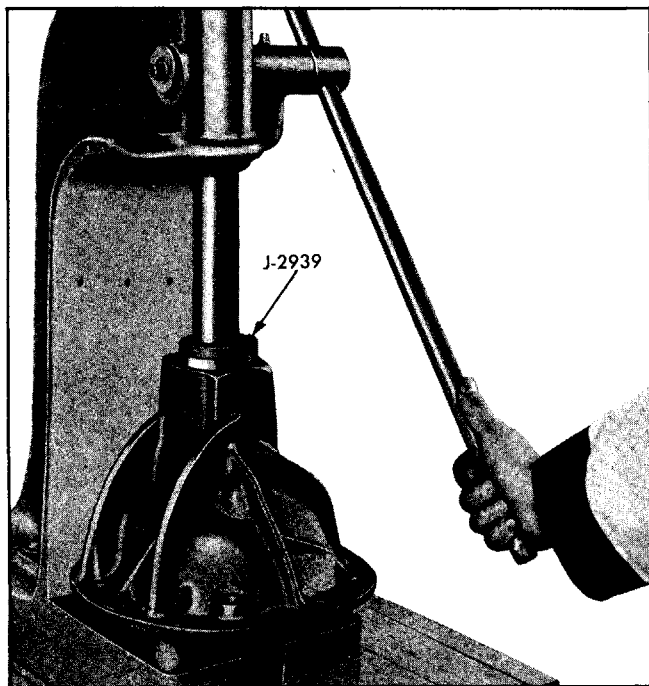

Fig. 4-36 Installing Front Bearing Outer Race With Installer J-2939
18. If pinion front bearing was removed, press outer race firmly into place against shoulder in carrier using Installer J-2939 (Fig. 4-36) and Handle J-2940 if required.